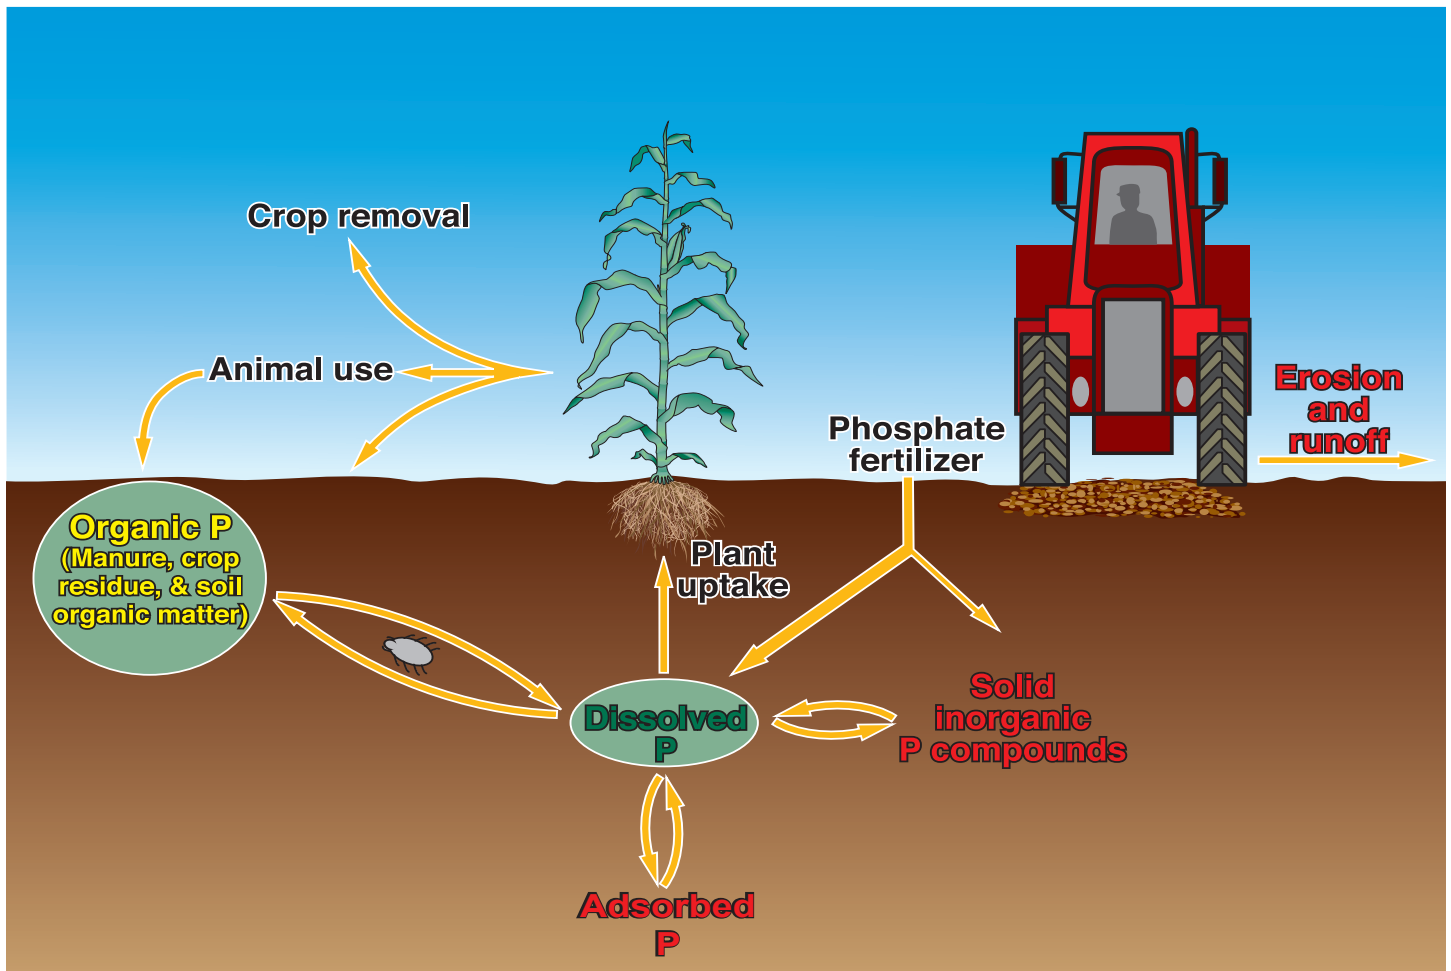

Figure 1. The phosphorus cycle in agricultural soils.
Phosphorus (P) is an essential nutrient for all forms of terrestrial life and is one of the 18 chemical elements known to be required for plant growth. In Colorado, agricultural soils generally contain from 800 to 2,000 pounds of total P per acre in the tillage layer. However, most of it is in insoluble compounds unavailable to plants. The remainder cycles within plants, animals, soil, and the soil solution in biologically available forms and organic P compounds. A simplified P cycle is depicted in Figure 1, showing the principal P inputs and sinks. In production agriculture, fertilizer and manure are the major P additions to this cycle. Without these inputs, intensive commercial agriculture would not be viable on many soils. However, proper management of soils and P fertilizers is essential to protect water quality from degradation.